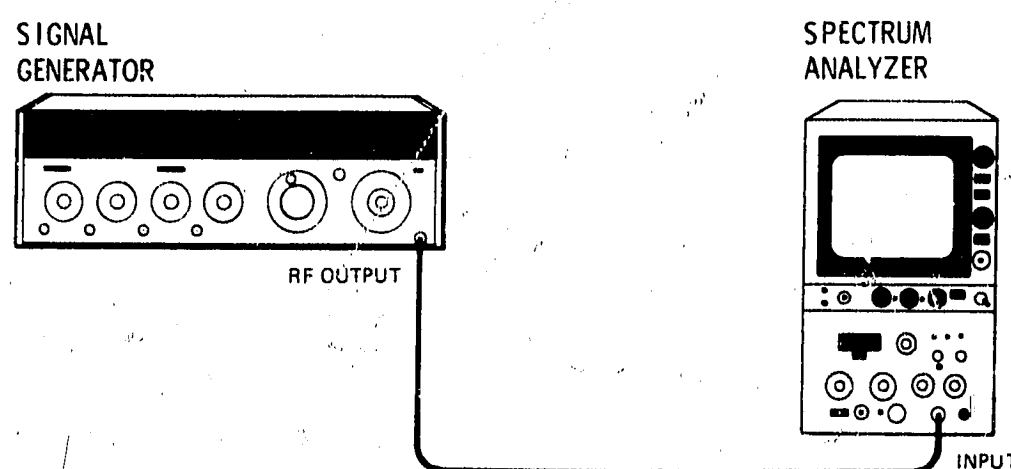

Figure 4-9. Resolution Bandwidth Accuracy Test Setup 100 kHz to 3 MHz
2. Connect equipment as shown in Figure 4-9.